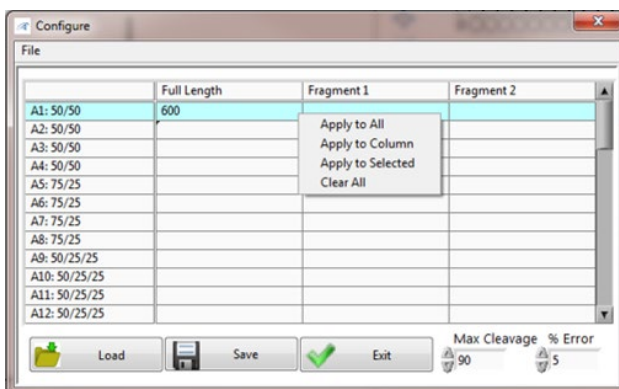
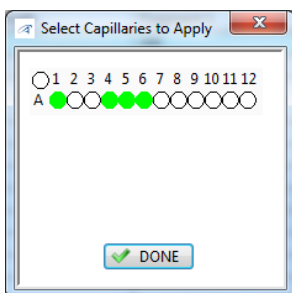
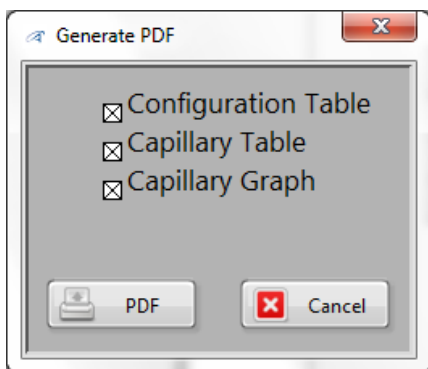

Figure A3. Setting the expected **Full Length** PCR and cleavage fragment sizes (**Fragment 1** and **Fragment 2**; in order of increasing size) in the **Configure** screen.
Figure A4. **Apply to Selected** pop up dialog, to select additional wells to apply size information from a specific well.
Figure A6. PDF report options for the **CRISPR Main** plugin.
- 4 In the **Configure** screen enter the expected PCR fragment size (**Full Length**) and the expected cleavage fragment sizes (**Fragment 1** and **Fragment 2**; enter in order of increasing size) for each sample well (Figure A3). Right-click over a cell and select **Apply to Column** to copy the entered value in that cell to the entire column. To apply an entire row of entered values to all rows, right click over the row with the desired values entered and select **Apply to All**. To apply to a selected set of wells, right click over the row with the desired values entered and select **Apply to Selected**, and mark the respective wells to copy the values to in the pop up dialog box (Figure A4), and click **Done**. To clear all entered values, right click and select **Clear All**.
- Results calculated by the **CRISPR Main** plugin can be output as a PDF report by selecting **Create PDF**. Options are provided to generate a PDF **Configuration Table**, **Capillary Table**, and/or **Capillary Graph** for all or for selected samples in the report (Figure A6). When selecting the **PDF** button to print a report, a capillary selection pop up dialog will appear, similar to Figure A4, to select the respective sample wells to include in the PDF report.